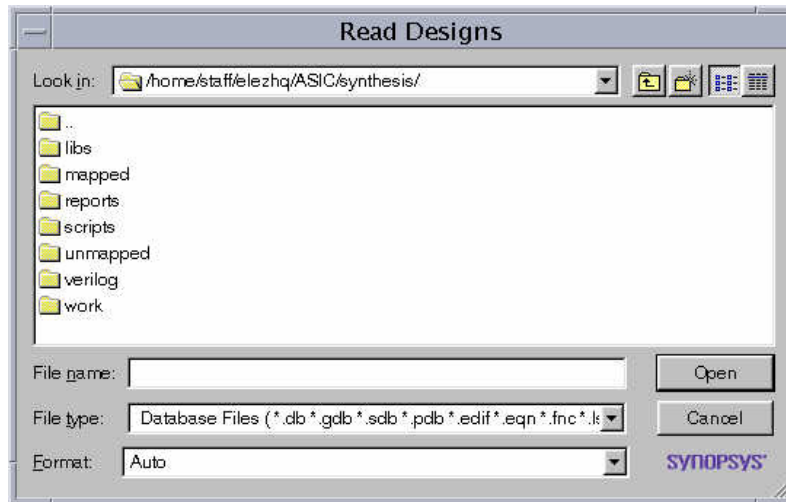

Figure 4-11 Read Designs window.
3. On **Design Vision** window, click on **File→Read...** to read a design. The Read Designs window appears as shown in figure 4-11.